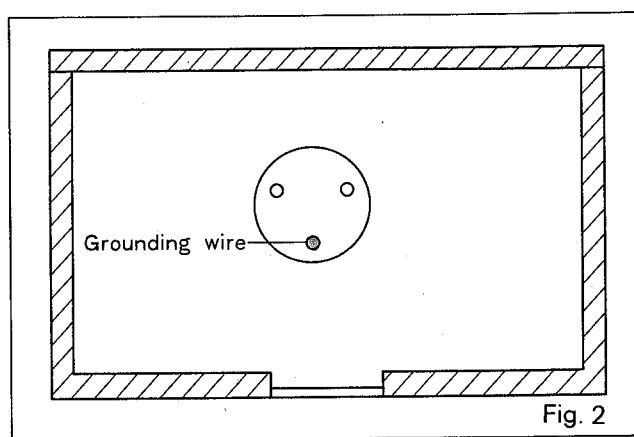
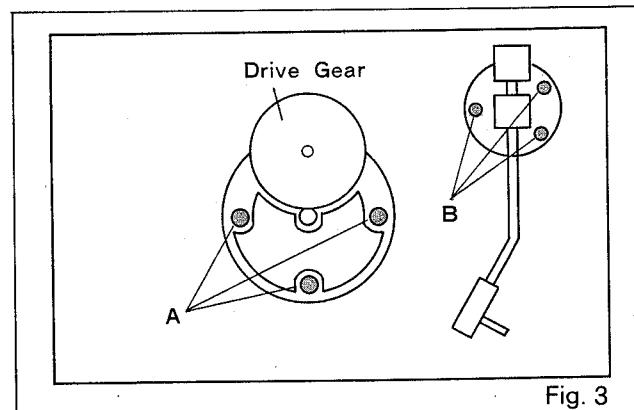

Fig. 2
Fig. 3
- (2) Remove the return plate ⑩ and return arm ⑧.
- (3) Disconnect with a nipper the lead wires of servo controller circuit board except for one from motor.
- (4) Remove the servo controller circuit board from the P.C.B. mounting spacer ⑦.
- (5) Disconnect with a nipper the grounding wire of motor (Fig. 2).
- (6) Place the set on a suitable bench with the surface of chassis upward.
- (7) Remove the drive gear ⑤.
- (8) Remove the three screws A which fasten the motor. (Fig. 3)
- (1) Remove the return plate. ⑩
- (2) Remove the shield case ⑨, disconnect from the shield connector plate the lead wires coming from the tone arm and remove the wirings.
- (3) Loosen the screw ⑮ which is placed in the tone arm fixing plate and remove the tone arm fixing plate ⑯.
- (4) Remove the tone arm mounting nut ⑯.
- (5) Place the set on a suitable bench with the surface of chassis upward.
- (6) Remove the three screws B described in Fig. 3.
- (1) Loosen the screws A in Fig. 3 which hold the motor.
- Yes: Loosen three screws (Fig. 3) which fasten the motor shaft, and adjust.